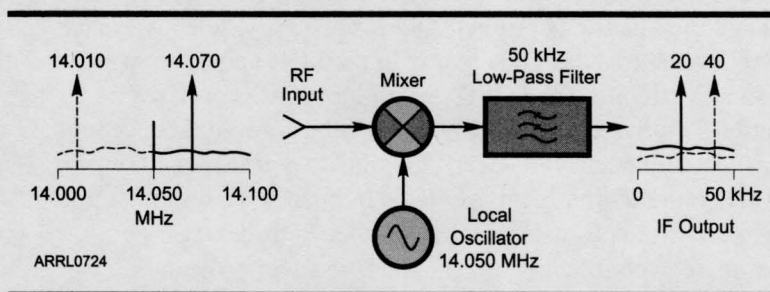

Figure A.1 — Direct conversion without sideband rejection.
(Assume for the moment that we have a two-channel sound card with 50 kHz bandwidth.) Let's say there is a CW signal (the one we want to copy) at 14.070 MHz. There is some QRN and QRM throughout the band. In particular, there might be an undesired QRM signal at 14.010. Our receiver wants to use a local oscillator (LO) frequency in the middle of the band, 14.050 MHz, so that the IF is in the ultrasonic audio range (up to nearly 50 kHz) that can be accepted by a good sound card. We can make a diagram of the situation in **Figure A.1**. (Notice the power spectrum or "frequency domain" sketches of our signal. That's often a useful way to view signals. The arrows indicate RF input signal frequencies.) The range of RF frequencies above the LO is called the upper sideband (USB), and the range below is the lower sideband (LSB).
scheme of Figure A.1 can't distinguish them, but with some more work we can do it.